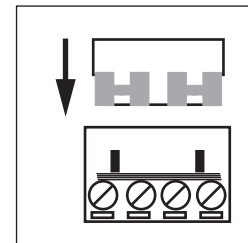

Fig 3 Continuity link
3. If a continuity test is to be done, it should be carried out before securing the call point to the backbox (step 4). Insert the continuity links supplied with the backbox (Fig 3) into the terminal blocks before testing. After testing for continuity remove the connectors and store for re-use.